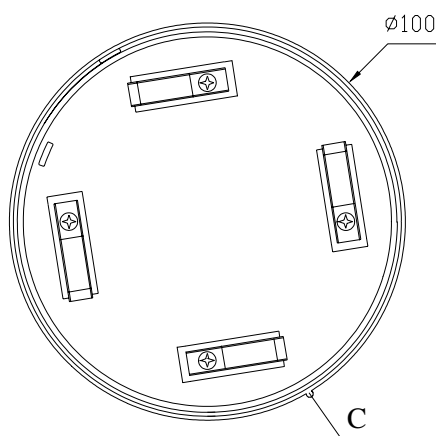
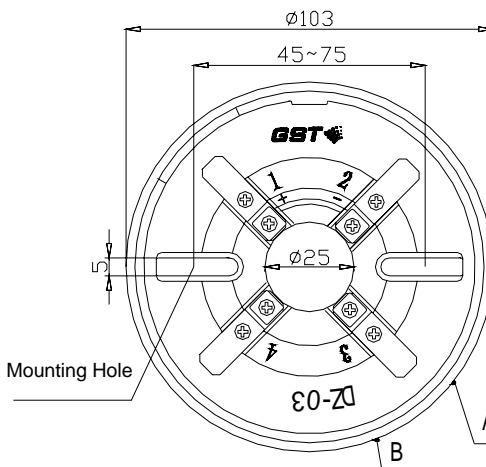

Fig. 3
Fig. 4
2. The base of the detector is shown in Fig. 3 and orientation base in Fig. 4. There are four conducting pieces on the orientation base, each carrying a terminal with number. The detector bus in the wiring tube can be connected with any two diagonal conducting pieces "1" and "3" (non-polarized). "2" is for anode of the remote LED and "4" is for the cathode. These are used to fix the detector accessarily: There are location elements on the bottom of the detector (mark C) and on the orientation base (mark A and B). When installing, align mark C to mark A and rotate the detector clockwise to mark B. The detector is installed.